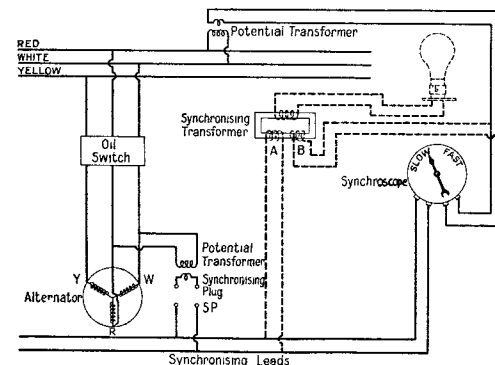

Fig. 1.—THE INSTRUMENTS USED FOR SYNCHRONISING.
**T**O synchronise an alternator of any size, the speed of the set must give exactly the same periodicity as the system, the voltage of the incoming machine must be the same as that of the system or slightly higher, and the incoming machine must reach the crest and bottom of the wave in exact step with the system. Fig. 1 shows the instruments used for synchronising. The voltmeters for the system and the machine have been omitted to keep the diagram simple. In Fig. 1, R, W and Y indicate the phase windings. The machine is connected to the busbars through the oil switch.